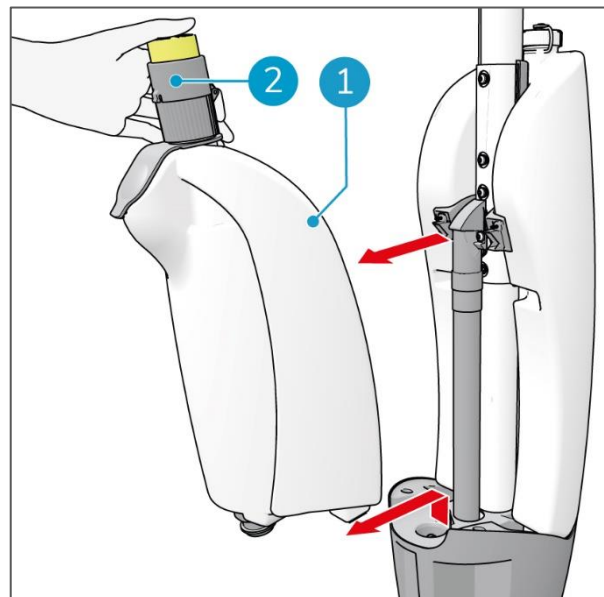

Figure 13
When the solution tank (Figure 13, pos 1) is empty, you can remove it to fill it.
1. Take the solution tank (Figure 13, pos 1) by the injector (Figure 13, pos 2).